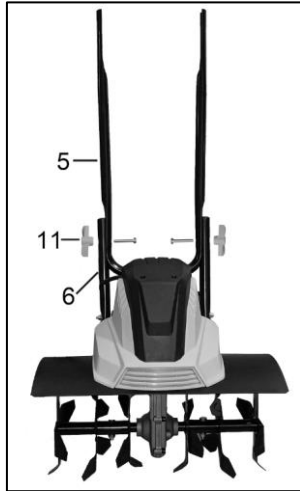

Fig. 1
Connect the middle tubing (5) and the upper tubing (2) to the lower tubing (6) using the wing nut and bolt (11). (Fig. 1, 2)